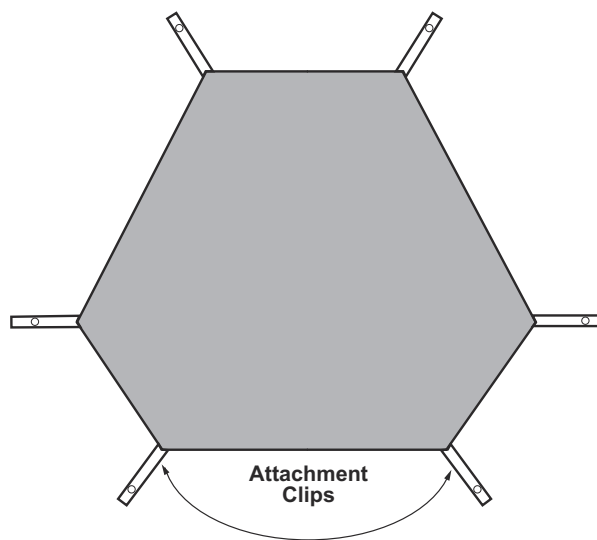

Figure 14-6. Mesh Drying Rack.
- *Tent body.* The tent body is made of urethane coated taffeta nylon weighing 3 ounces per yard. Inside the top of the tent is a mesh drying rack (see fig. 14-6) and around the bottom are several mesh pockets for commonly used items. The entrance has a mesh panel designed to keep bugs out.